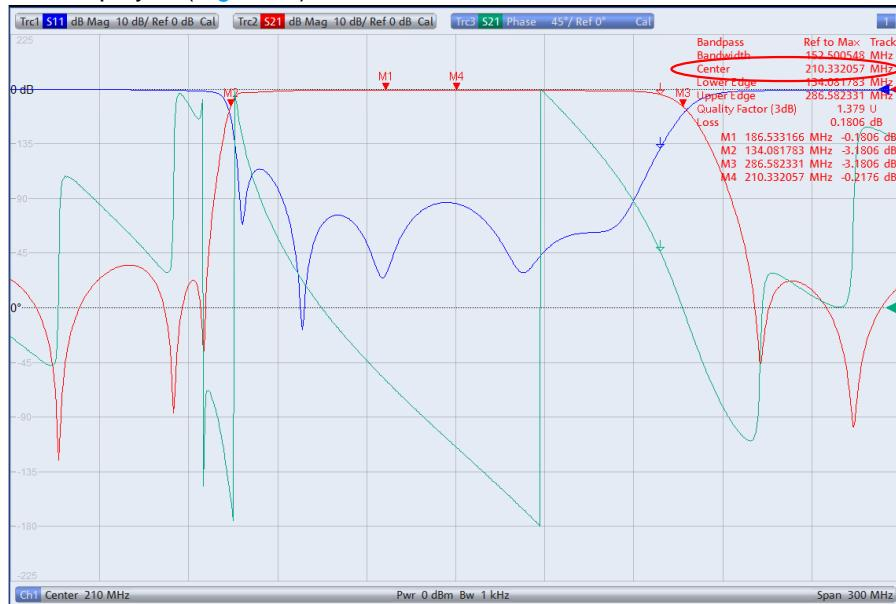

Fig. 2-33: Display of the absolute bandpass center frequency.
- Press the *SETUP* key and select *System Config...*. Select the *Advanced* tab and disable *Geometric Calculation of Bandfilter Center*. In place of the geometric mean, the absolute center frequency of 210.33 MHz is now displayed (Fig. 2-33).